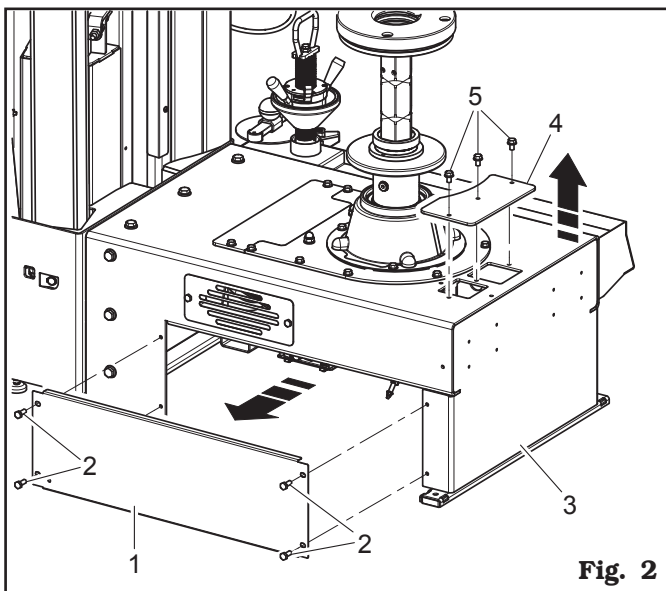

Fig. 2
2. Remove the left lateral guard (Fig. 2 ref. 1) from the tyre-changer frame (Fig. 2 ref. 3) unscrewing the fixing screws provided (Fig. 2 ref. 2). Remove the plate (Fig. 2 ref. 4) unscrewing the screws (Fig. 2 ref. 5).